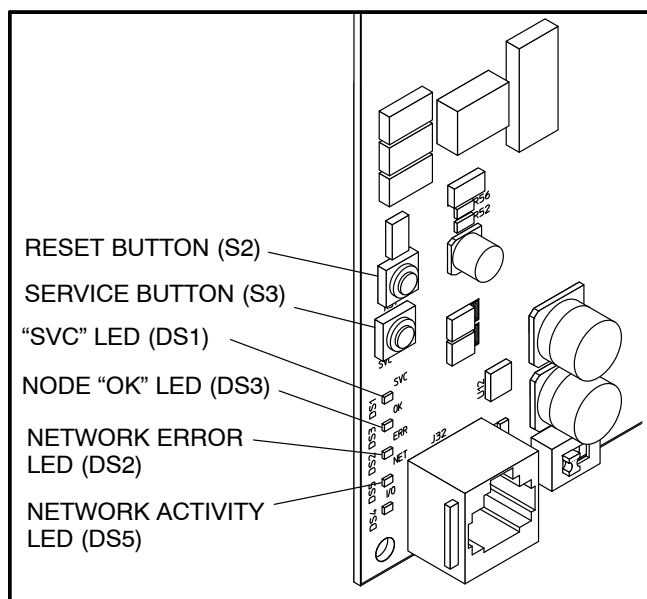

FIGURE 10-4. BUTTON AND LED LOCATIONS
13. Reconnect the generator starting battery cable(s). Verify that the "SVC" indicator blinks on the NCM (see Figure 10-4).
15. Turn the PCC selector switch to the "Manual" position to "wake up" the PCC 2100. Verify that the "OK" indicator blinks on the NCM (see Figure 10-4).
After the device has been installed, the *Node Address* can be verified by counting the number of pulses of the “OK” LED (DS3) (see Figure 10-4). Make sure each device has a unique node address.
4. Press and hold the *Service* button (S3) (see Figure 10-4) for approximately two seconds